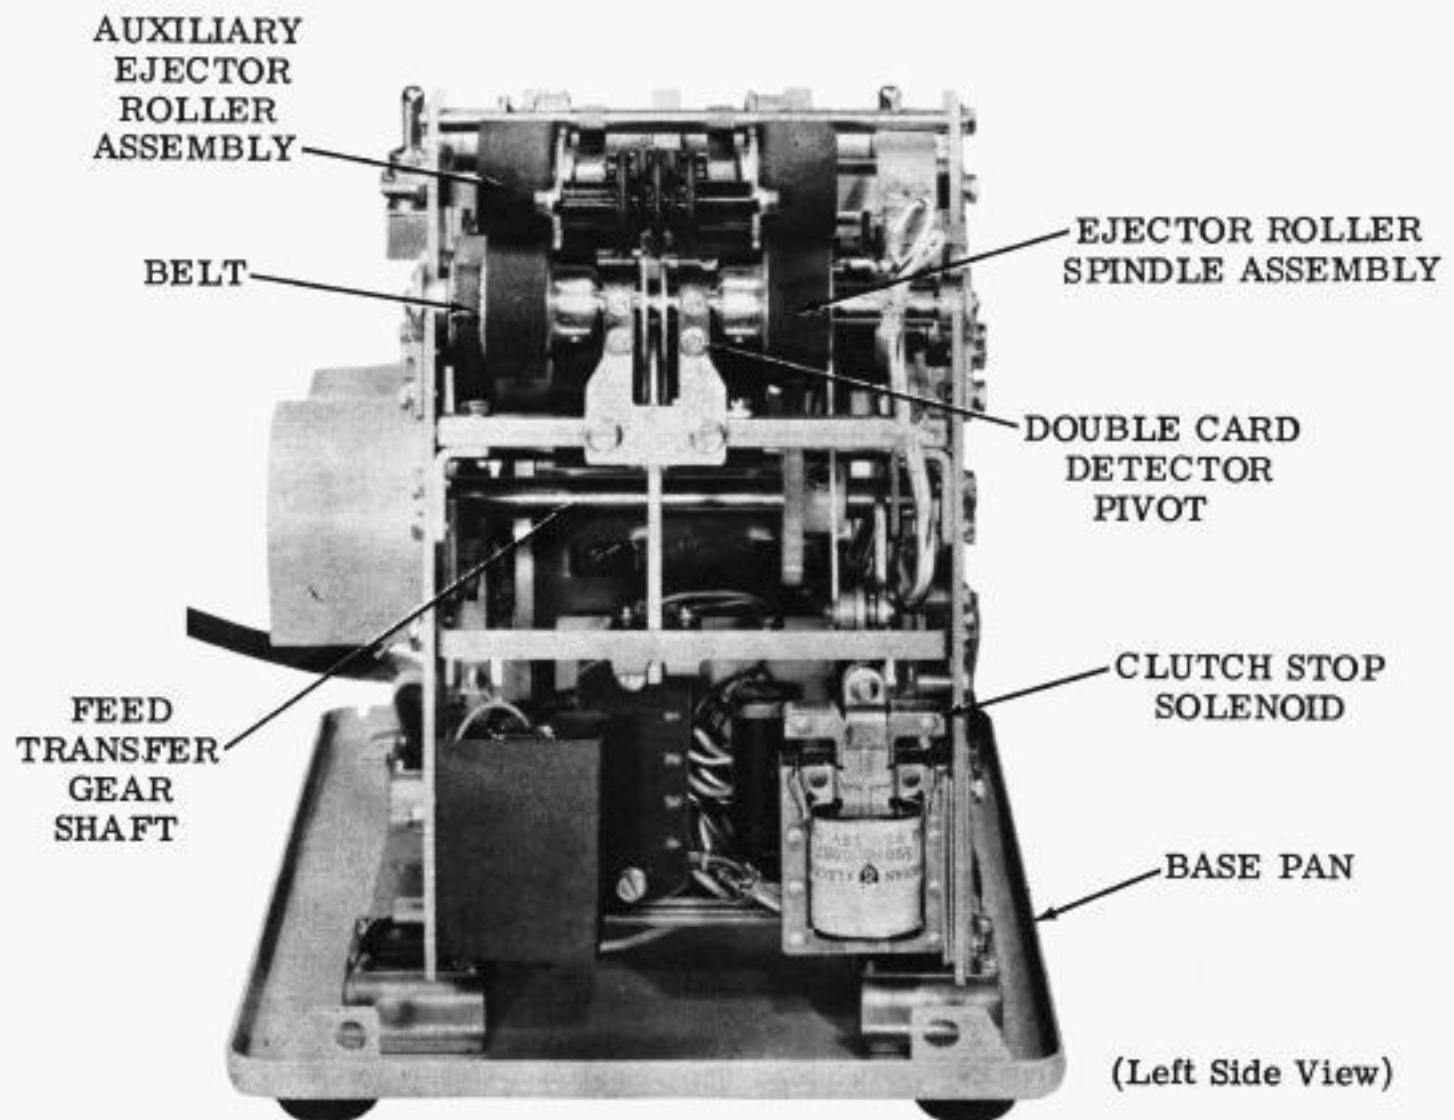

Figure 6 - 35 Edge Punched Card Feeder - Without Top Plate and Cover
2.04 To remove the base pan TP320093 (Figure 6), remove the four screws TP151632 mounting the coupler brackets TP320102 and TP320103. Remove the two screws TP151632 which are tightened directly against the base pan. Remove the base pan. To replace the base pan, reverse the procedure used to remove it.
pillow blocks TP320076. Remove the two screws securing the double card detector pivot TP320136 (Figure 6). Remove the retainer ring TP119653 from the ejector roller spindle shaft and remove the pillow blocks. Disengage the timing belt TP320069 from the pulley and lift the spindle free of the feeder. If necessary, the rubber TP320107 is used to replace worn rubber on the ejector roller spindle assembly. To replace the ejector roller spindle assembly, reverse the procedure used to remove it.
2.12 To replace the clutch stop solenoid TP139012 (Figure 6), remove the four screws TP151631 from nut plates TP320128 mounting the solenoid. Remove the retainer ring TP119649 on the pin TP153565. Remove the pin and lift out solenoid. To replace the clutch stop solenoid, reverse the procedure used to remove it.